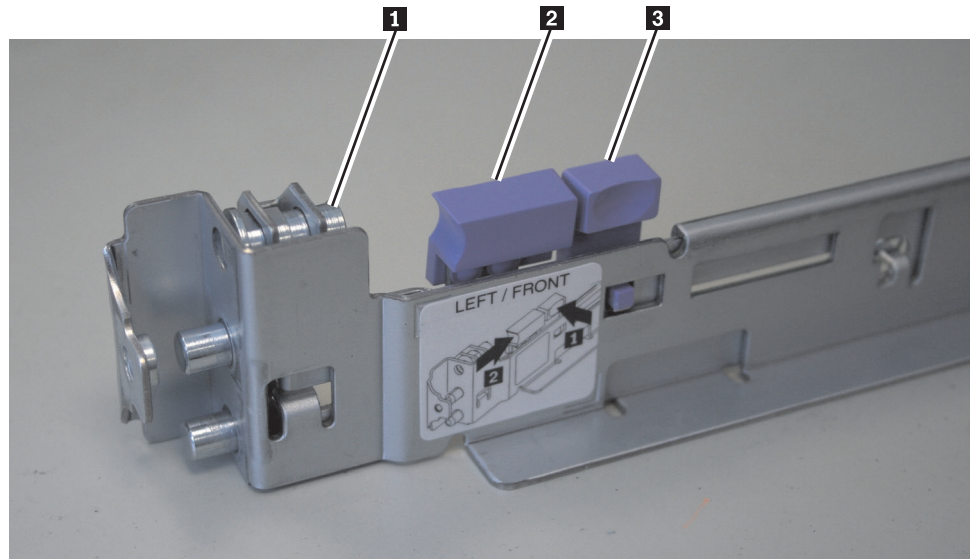

Figure 21. A closed rail-locking carrier at the front of the support rail for the SAN Volume Controller 2145-8A4
1. Ensure that the rail-locking carriers at the front and rear of each support rail are open. The mechanism to open is similar at each end. If a locking mechanism is closed, as shown in Figure 21 on page 25 (for a front bracket), open it.